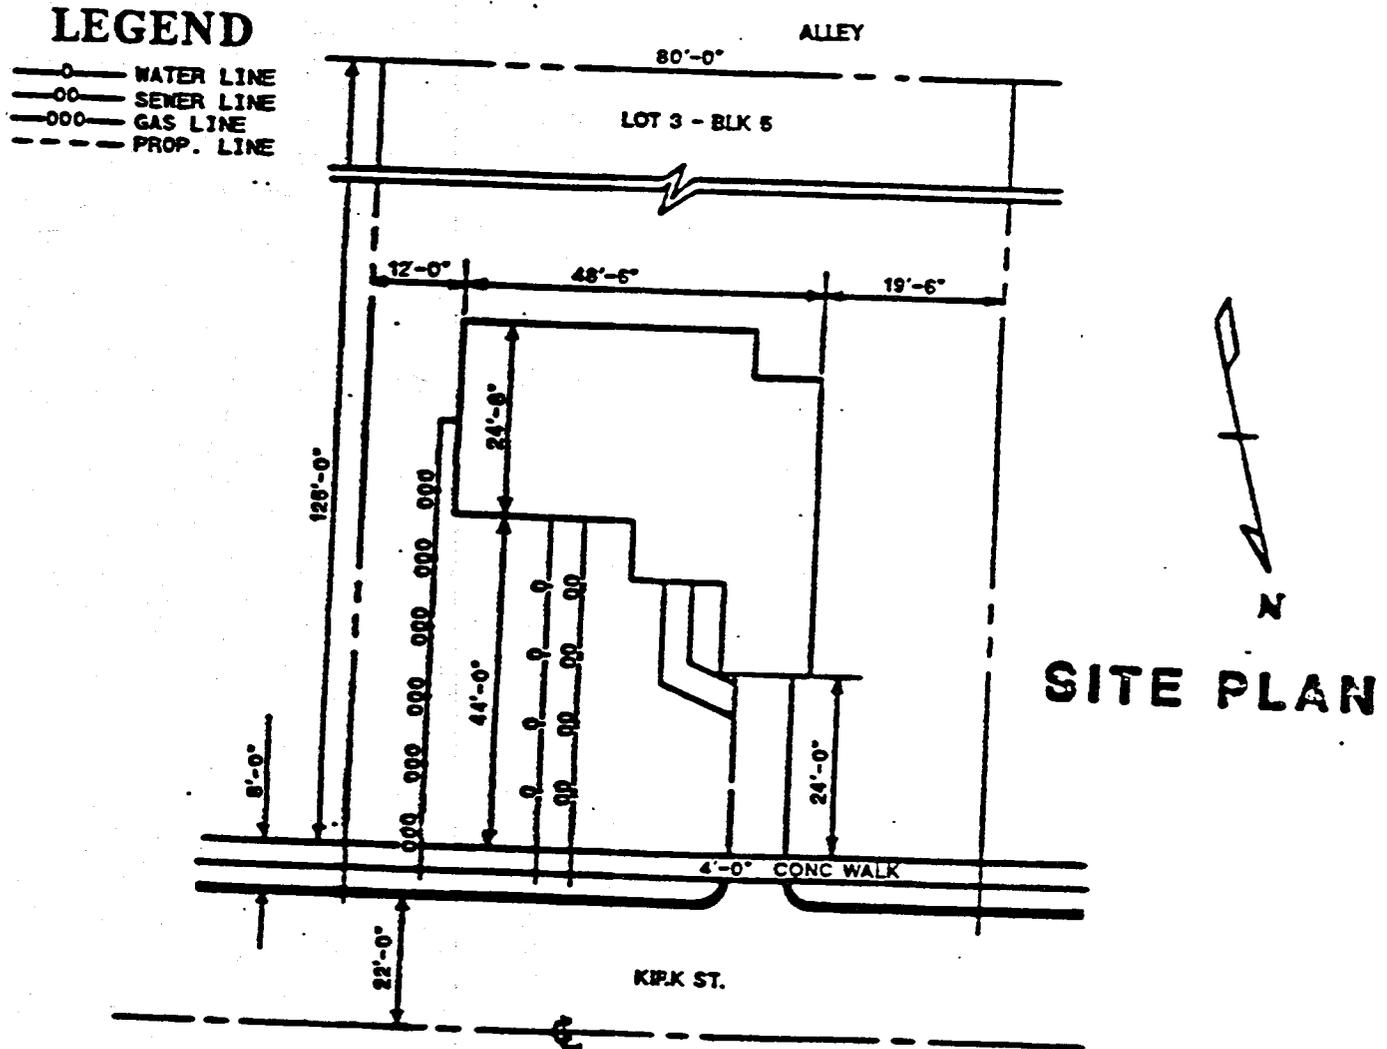

Fig 2-6. Typical site plan.
As stated at the beginning of this section, the site plan will show, as needed, the property lines and locations, new and existing utilities, sewer and water lines, and building lines. Figure 2-6 shows a typical site plan without the contour lines or spot elevations. The plan is oriented by a north pointing arrow to indicate site north (or magnetic north).
- b. Location of buildings and facilities. Buildings and other facilities are located in relation to the property lines or to some other prominent feature such as a road. The distance between principal details and the property lines are furnished. All distances indicated in a plan view of the site express a horizontal measurement between two points and do not take into consideration terrain irregularities. The size of the proposed facility or building as well as the distance of the object from the property line is shown. In figure 2-6 one corner of the house is located 44 feet from the walk and the other corner is located 24 feet from the curb to the house side of the walk. You may need several dimensions to locate a building if the building is set at an odd angle to the property.
- c. Sidewalks and roadways. Both existing and new approaches to the facilities will be shown on the site plan. The position and the sizes of the approach will normally be given. The existing road and highway usually will be located by their centerlines. In figure 2-6 the walkway is 24 feet from the front of the building on the plan.
- d. Location of existing utilities. The site plan will show the location and the types of existing and new facilities. The symbols for utilities normally are dash-lines and a "W" for water, dash-line and "G" for gas, dash-line and "S" for sewer, and dash-line and "E" for electricity. However, not all architects use the same symbols; therefore, the architect will usually include these symbols in the legend. Figure 2-6 shows different utility symbols than those previously stated. However, the symbols used are the same as those shown in the legend: dash-line O for water, dash-line OO for sewer, and dash-line OOO for gas. If there is any doubt about where the utilities are to be placed, the architect should be consulted.